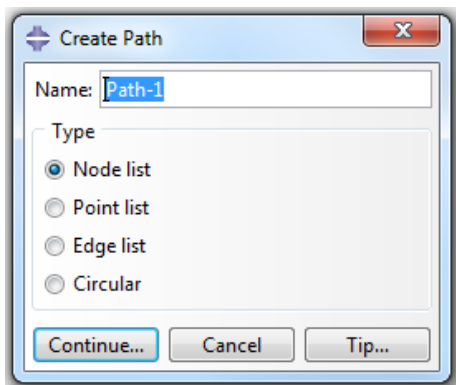

Figure 50a. Create Path Dialog Box
- To obtain a plot of the nodal displacement a path must be created. Double click **Paths** in the results tree and the **Create Path** dialog box will appear (Figure 50a). Create a **Name** for the path called **LENGTH** and ensure that **Edge list** is selected under **Type**. The **Create Path** dialog box should look identical to that in Figure 50b.